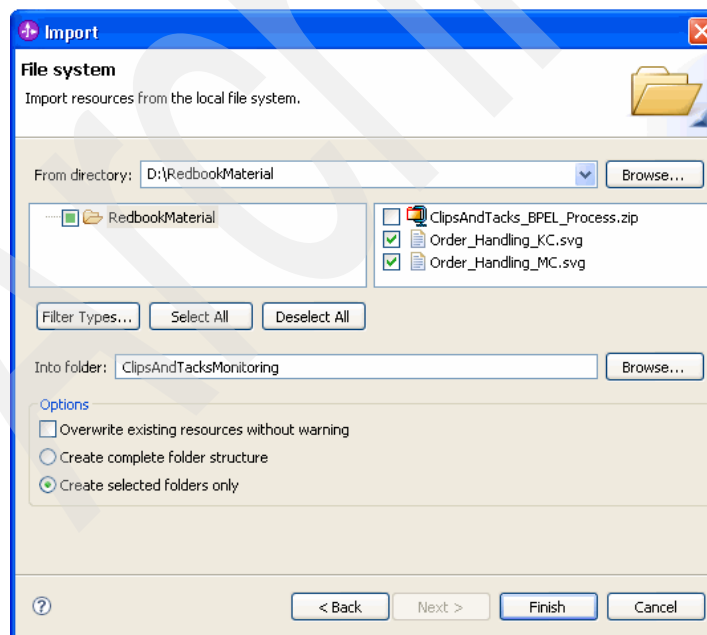

Figure 5-58 Importing the ClipsAndTacks SVG files
3. In the Import – File System window (Figure 5-58):